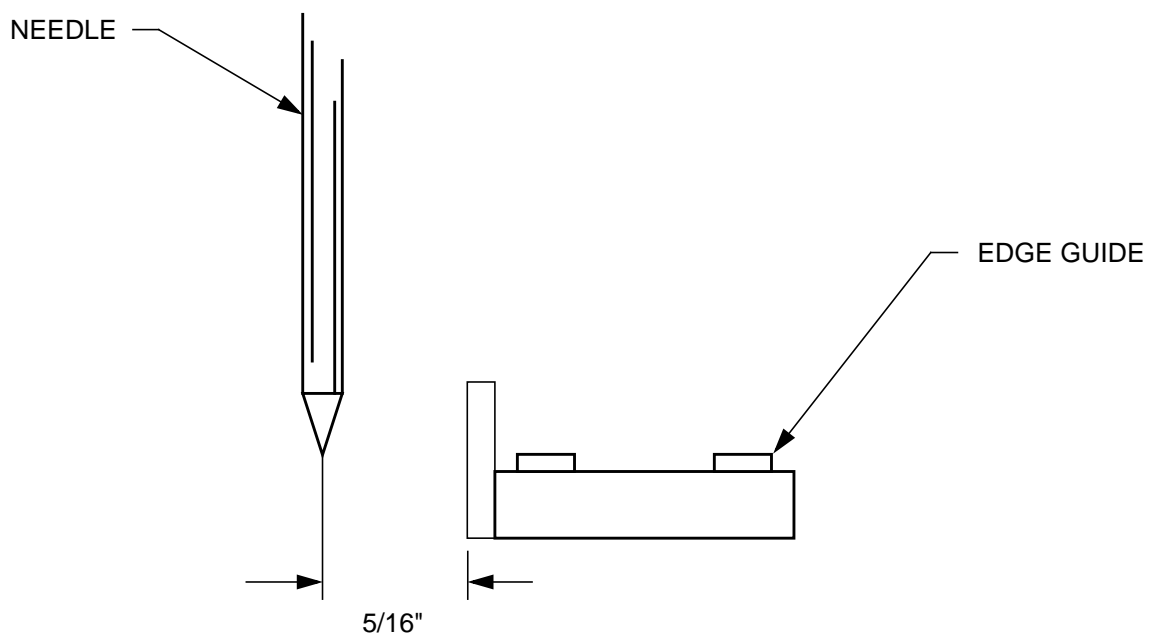

FIGURE 6 - SETTING SERGING WIDTH
5.2.6.1 The edge guide shall be set 5/16 inch from the needle (see Figure 6).
5.2.7.1 Thread the Sanwa serging machine as shown in Figure 6.